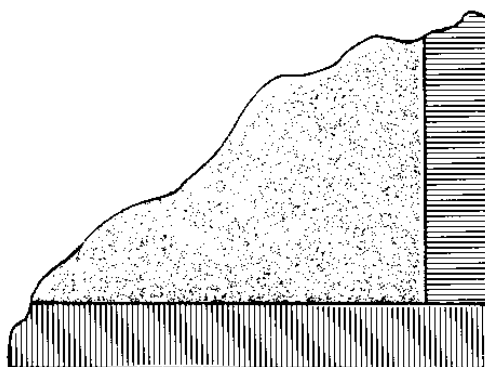

FIGURE 1 - GENERAL DESCRIPTION OF SERGED CARPET EDGE
- 5.1.2 Refer to Figure 1 for a general description of a carpet with serged edges.